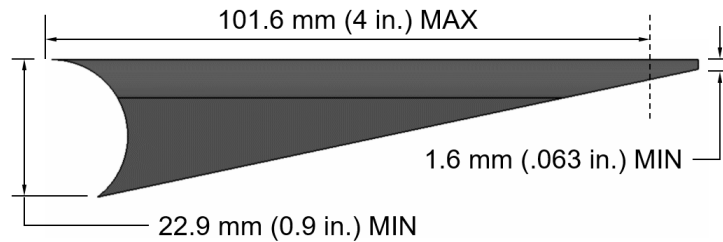

Figure B-42: Allowable Taper
- 3) Allowable cross section: Brackets shall have a “C” cross-section. The supporting gussets may be tapered as shown in Figure B-42, and shall be a minimum 22.9 mm (0.9 in) tall at the weld. Flat brackets are not permitted.